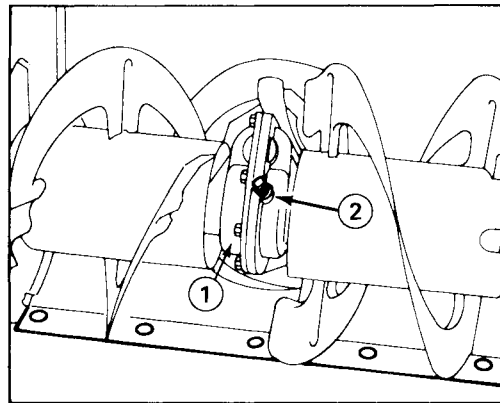

Figure 20
1. Remove pipe plug (Fig. 20).